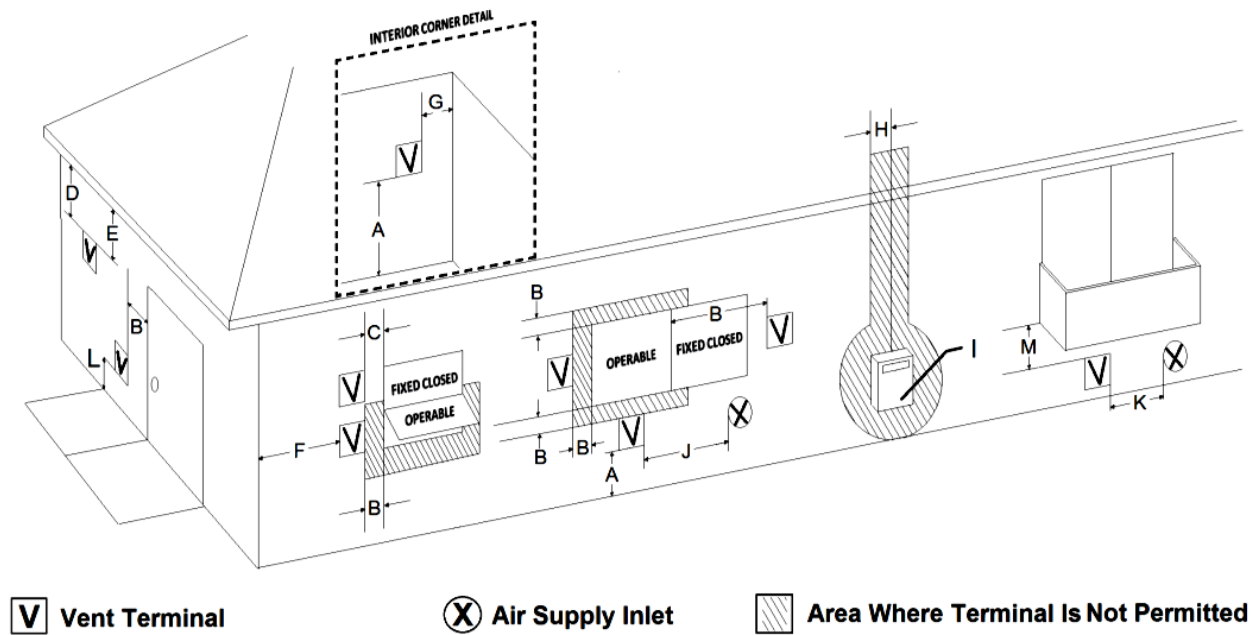

Figure 13 - Acceptable Direct Vent Terminal Vent Cap Locations
- 🔥 All horizontal terminations must also comply with the clearance specifications to adjacent structures outlined in Figure 13 - Acceptable Direct Vent Terminal Vent Cap Locations